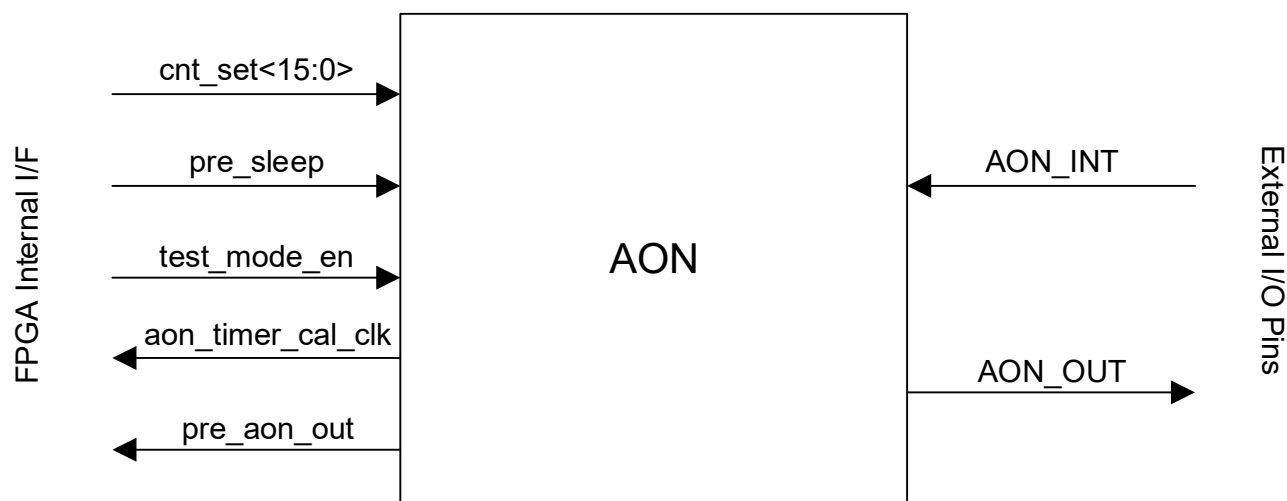

Figure 2.24. AON Functional Block Diagram
The Hardware (HW) AON block in LIFCL-33U is provided to support low power application, where the main FPGA device can be put in the power down state while the AON block continues to operate as a wake-up timer. The auxiliary power (always on power domain) to the AON block is provided by the dedicated V_{CCAUX_AON} supply rail. This is isolated from the rest of the FPGA power domain that can be turned off for low power applications. The AON_OUT output pin is provided to control the external power switch and AON_INT is provided to interrupt or to override the power down state. Both external signals follow the 1.8 V LVC MOS I/O standard. Figure 2.24 shows the high-level block diagram with internal FPGA internal interface control signals for the AON block. Table 2.13 provides descriptions of the AON ports.